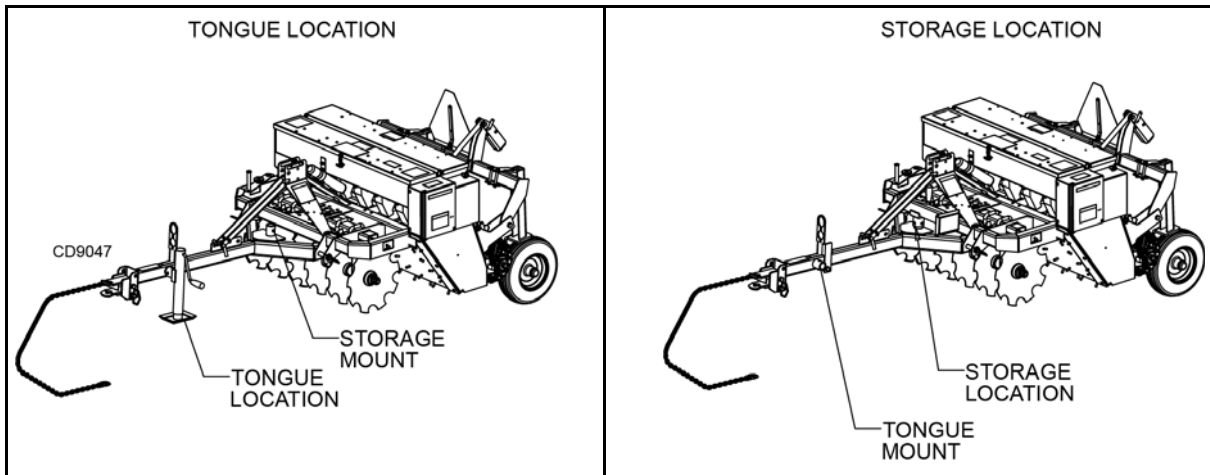

Figure 4. Jack Positions
7. Pin the jack to the operation location on top of the "Y" section on tongue. See Figure 4. This location prevents accidental contact with the rear tractor tires, which could result in damage to the jack.